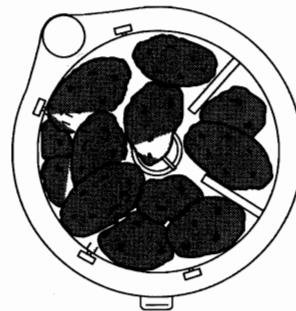

Fig. 7
- When processing large volumes of potatoes, onions, carrots etc., fill the whole cylinder (Fig. 7). Delicate products may benefit from using the two removable partition walls.